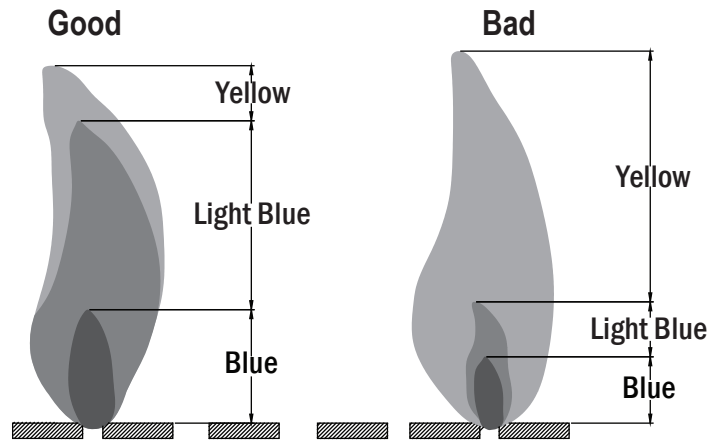

Figure 12
**Observe Flame Height When Lit:** The burner will display blue and yellow flames. These flames should be a blue / yellow color between 1~2 in. height (See Figure 12). These flames should not be yellow or produce thick smoke. This would indicate an obstruction of airflow through the burners. The flames should be blue with straight yellow tops.